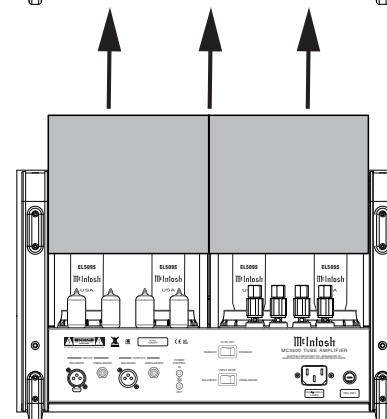

Figure 3
5. Carefully lift up and remove the Foam Insert from the MC3500, exposing the Vacuum Tubes. Refer to figures 3 and 4.